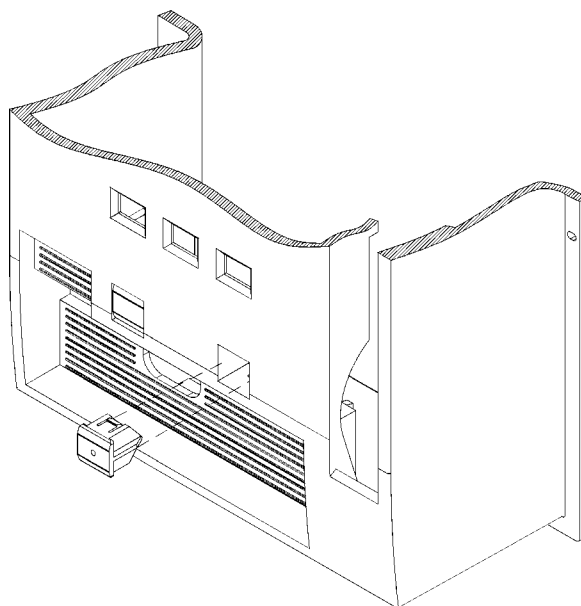

Figure 1. Installation of the Hidden Close Button.
6. Push the Hidden Close Button into the empty slot from the front of the escutcheon, as illustrated in Figure 1, until it snaps into place.